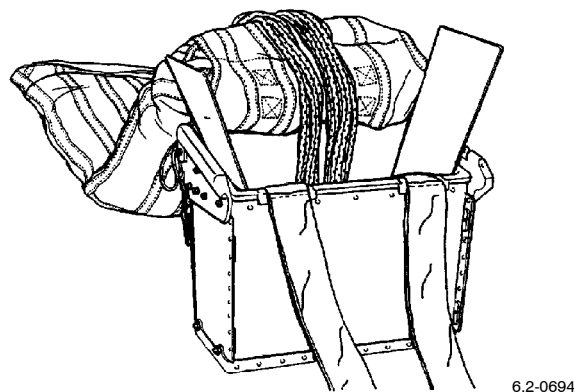

Figure 45. Deployment Sleeve Positioned in Container Opening
a. Position the deployment sleeve in the container opening, route the suspension lines down the center and stow in the rear of the container base as neatly as possible. Position riser covers (Figure 45).